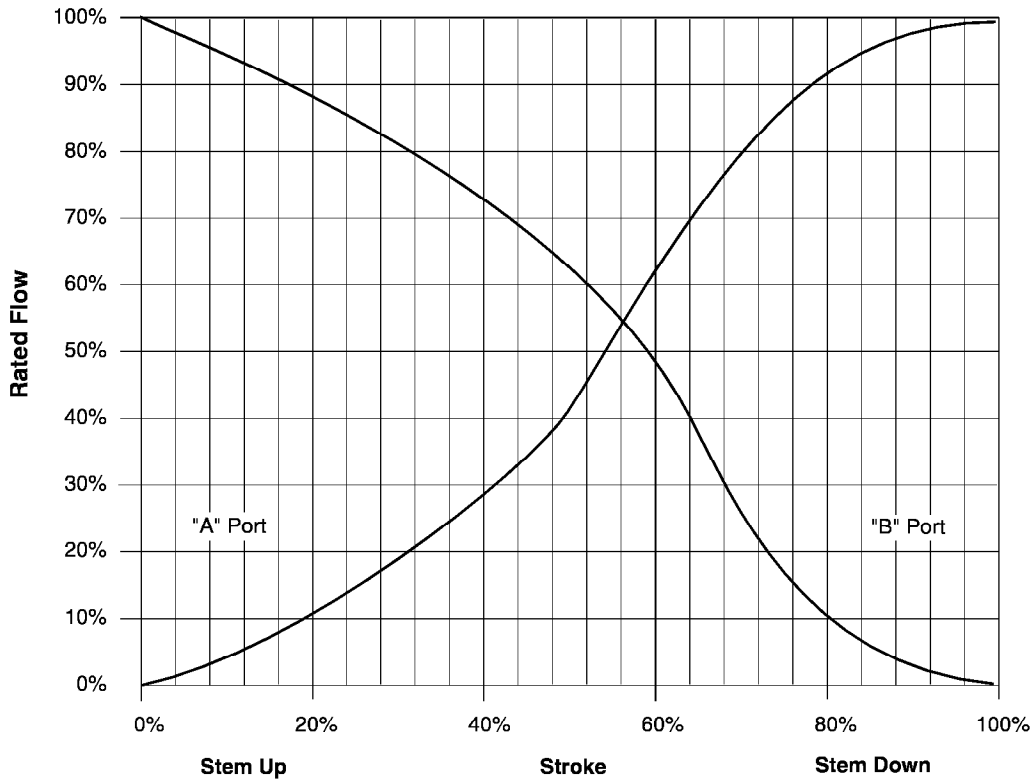

Figure-2 Typical Flow Characteristics.
**Three-Way Valves:** Three-way mixing valves are designed so that the flow from either of the inlet ports to the outlet is approximately linear, which means the total flow from the outlet is almost constant over the stroke of the valve stem. See Figure-2 for typical flow characteristics of the VB-731X series valve bodies.